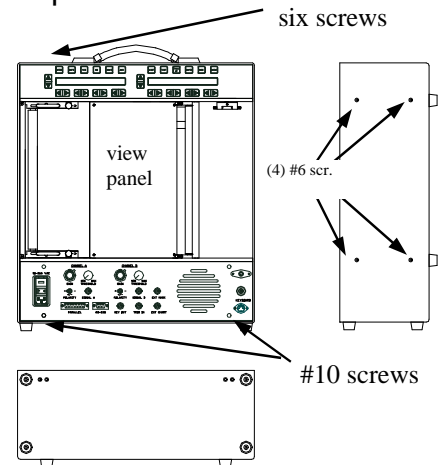

FIGURE 1- Decase the GSP-1086-2
1. Locate the the eight #6 countersunk screws (4- on either side of the GSP-1086 and remove them . In addition remove the view panel. (FIGURE 1).